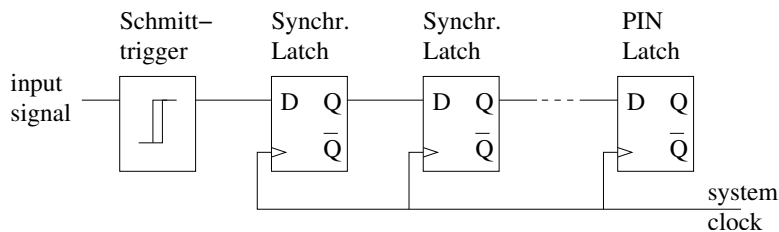

Figure 2.11: Block diagram of the basic input circuitry of a controller.
To reduce the probability of meta-stability even further, one or more additional latches may be set in series between the Schmitt-trigger and the PIN register latch. Such a construct is called a *synchronizer*. Figure 2.11 shows a block diagram of the resulting circuitry. Each additional synchronizer latch has the probability  $p$  to enter a meta-stable state if presented with an undefined input, so the whole chain of  $k$  latches including the PIN latch has probability  $p^k \ll 1$  to pass on the meta-stable
**Exercise 2.3.4** Assume that the Schmitt-trigger of Figure 2.11 has a propagation delay (that is, the time the signal is delayed while passing through the component) of  $k_1$  ns, and a latch has a propagation delay of  $k_2$  ns. Augment  $\bar{d}_{in}$  accordingly.